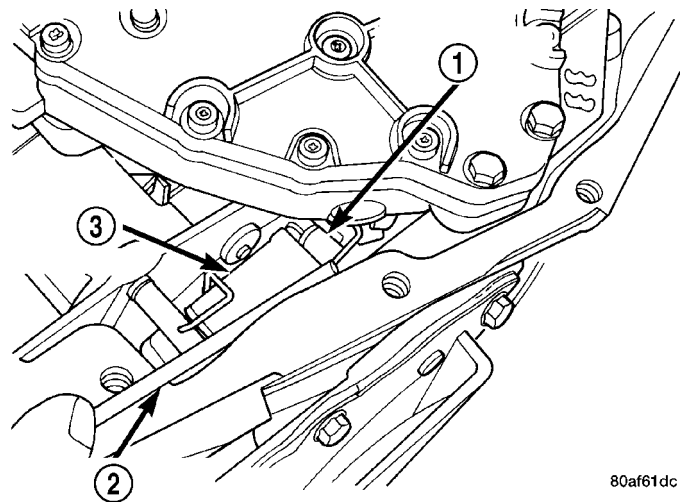
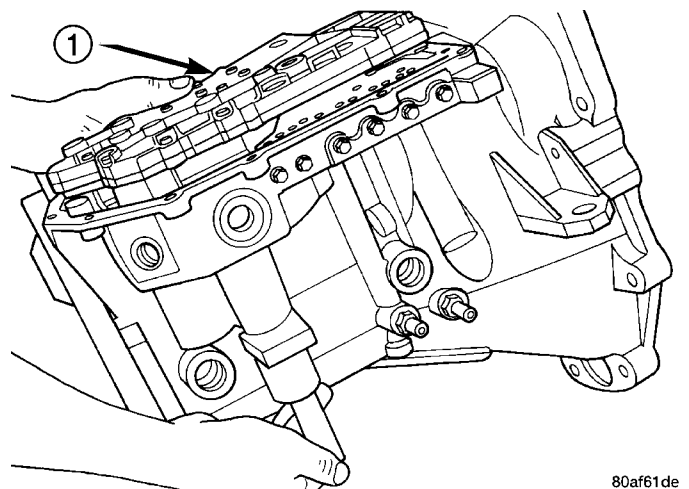

Fig. 339 Push Park Rod Rollers from Guide Bracket
Fig. 340 Valve Body Removal/Installation
(9) Remove park rod rollers from guide bracket and remove valve body from transaxle (Fig. 339) (Fig. 340).